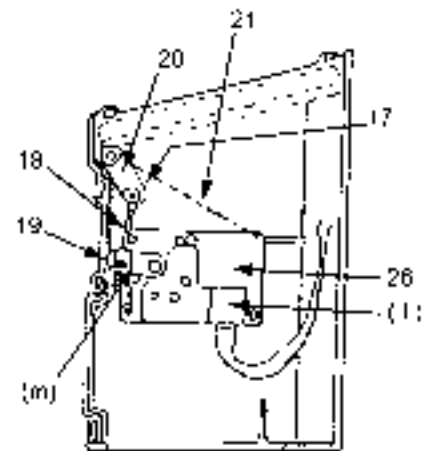

Figure-11
Do not release the rod clamp (19) and remove the rod (18) other than when replacing the actuator. If it has been removed, check to see the lever (m) is at location indicated in Figure-11. If it is not at that location, proceed as follows.
- Turn the power on and set to the AglInside Air Circulation mode. (beware that the lever (m) rotates) wait for 10 seconds, and then check to see if the lever (m) is at the location shown in Figure-11.
- Turn off the power and fix the rod (18) as explained in w of the previous section.